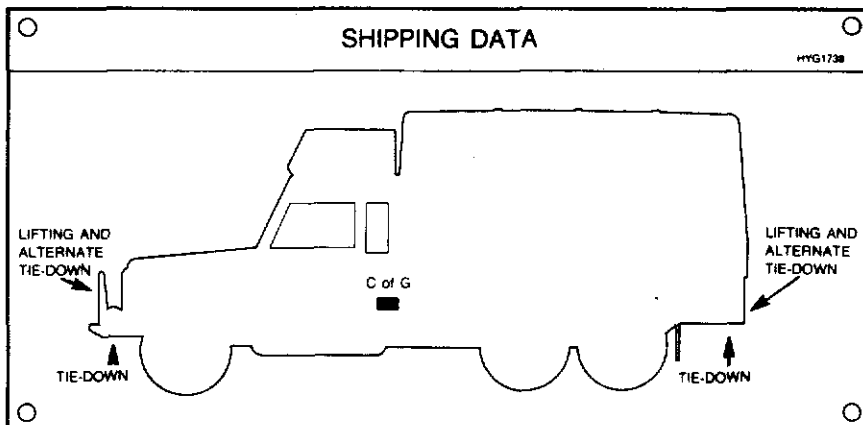

Figure 1-26 Shipping data plate
**119. Shipping data plate (Fig. 1-26)**